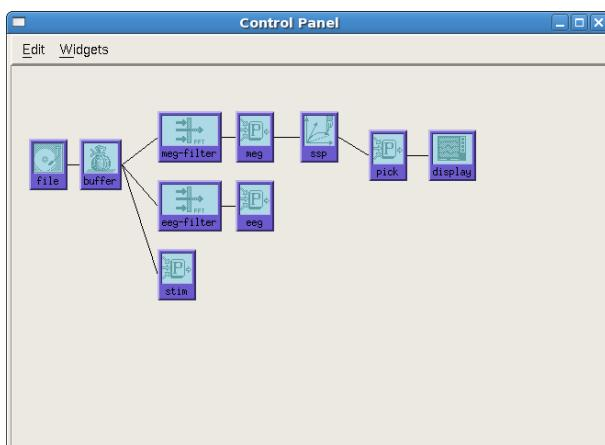

Figure 53: Link widget **ssp** in the control panel between '**meg**' and '**pick**'.
- Select **Displays -> Control panel (Alt-d + c)** and link widget **ssp** (Figure 53):